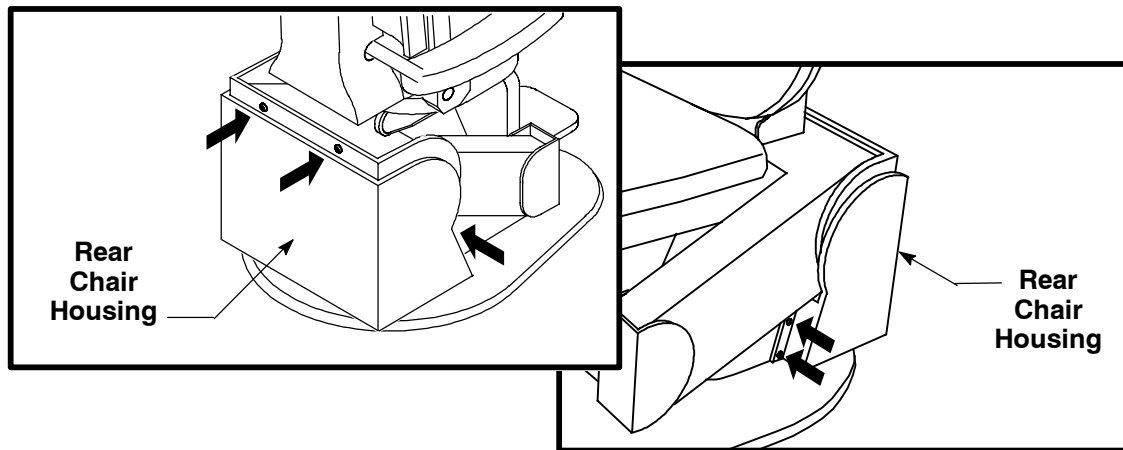

Figure 4-1. Removing the Rear Chair Housing
2. Remove the protective plastic caps, then use the No. 1 Phillips screwdriver to remove the six screws from the rear chair housing. Refer to Figure 4-1.